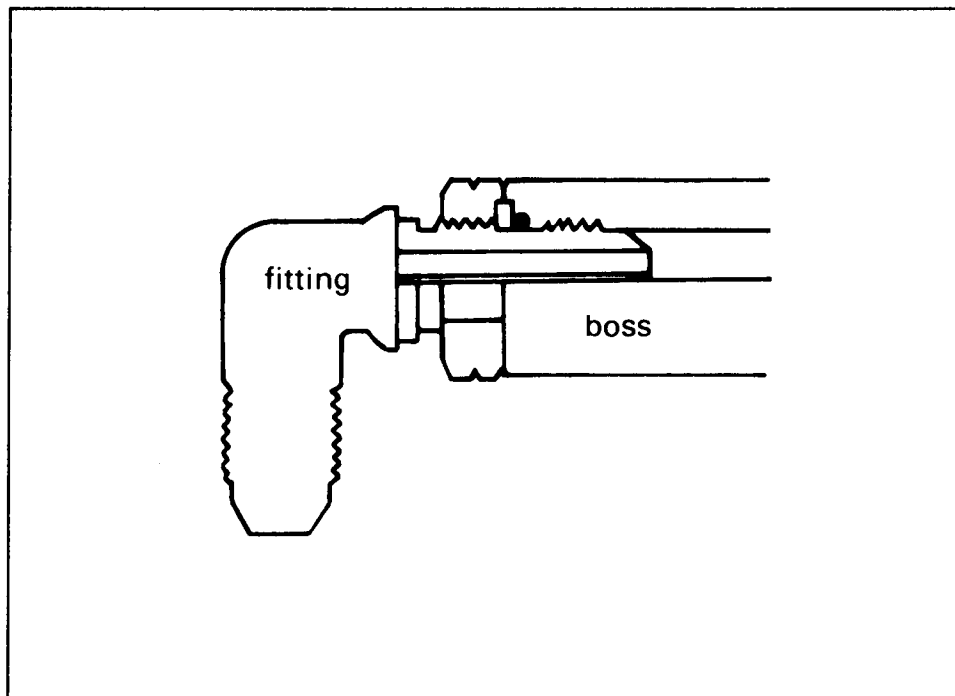

Figure 3-23. Fitting installed.
- Install the fitting into the boss; turn it until the packing has contacted the boss (the jam nut must turn with the fitting). (See Figure 3-23.)